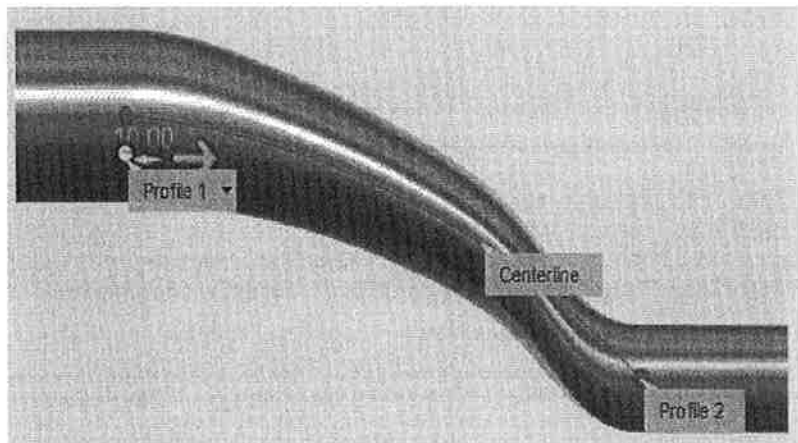

Figure 12-25
4. Change the end condition for *Profile 2* to **Tangent (G1)**. The loft geometry updates as shown in Figure 12-25. Note how the geometry transitions at the two selected faces to remain tangent to the existing solid geometry.